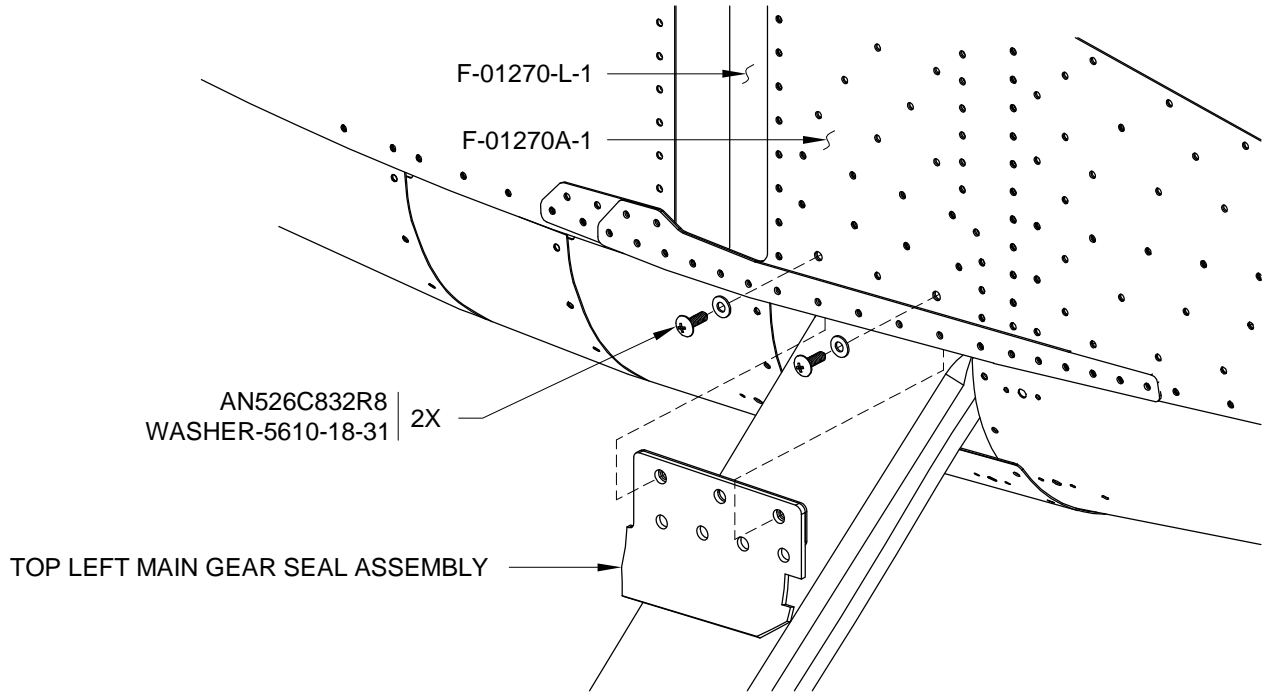

FIGURE 3: ATTACHING THE TOP MAIN GEAR SEAL ASSEMBLIES
Step 4: Slide the Top Main Gear Seal Assemblies behind the F-01270A-1 and F-01270-L-1 & -R-1 and secure them in place using the hardware called out in Figure 3.